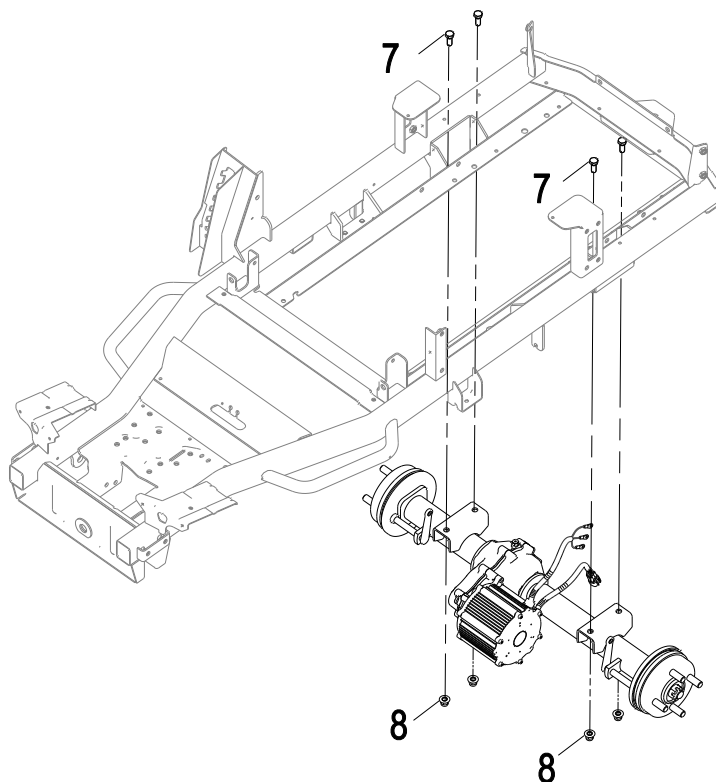

Fig. 6
6. Use a 15 mm open-end wrench to tighten the nut (7) in Fig.6. Use a 16 mm socket wrench to remove the bolt (8) by rotating counterclockwise in Fig. 6 (four sets of bolts and nuts in total for front & rear wheels).
2. Fix the rear wheel (10) onto the drive axle (11) with a 21 mm socket wrench and nut (9) to a torque of 95 N.m (70 Ft-lbs).
5. Fasten four sets of bolts and nuts as shown in Fig. 6 above to a torque of 45 N.m (33 Ft-lbs).